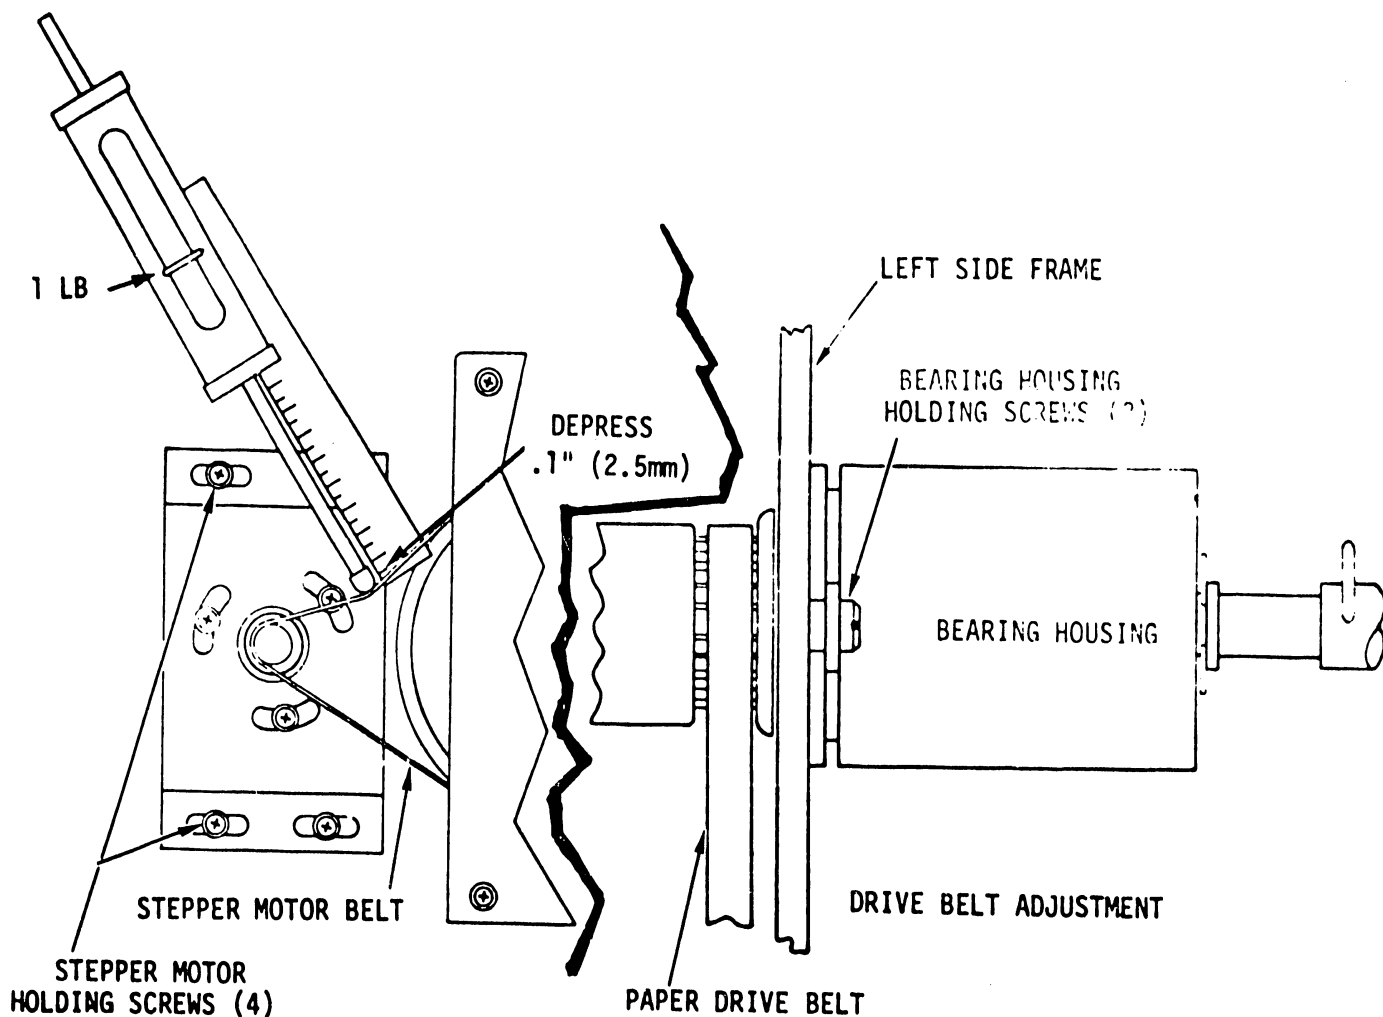

FIGURE 5-28 STEPPER MOTOR TIMING BELT ADJUSTMENT
- 2) Stepper Motor Timing Belt with the belt depressed .1" (.25 cm), the scale should read 1 lb. (See Figure 5-28.)